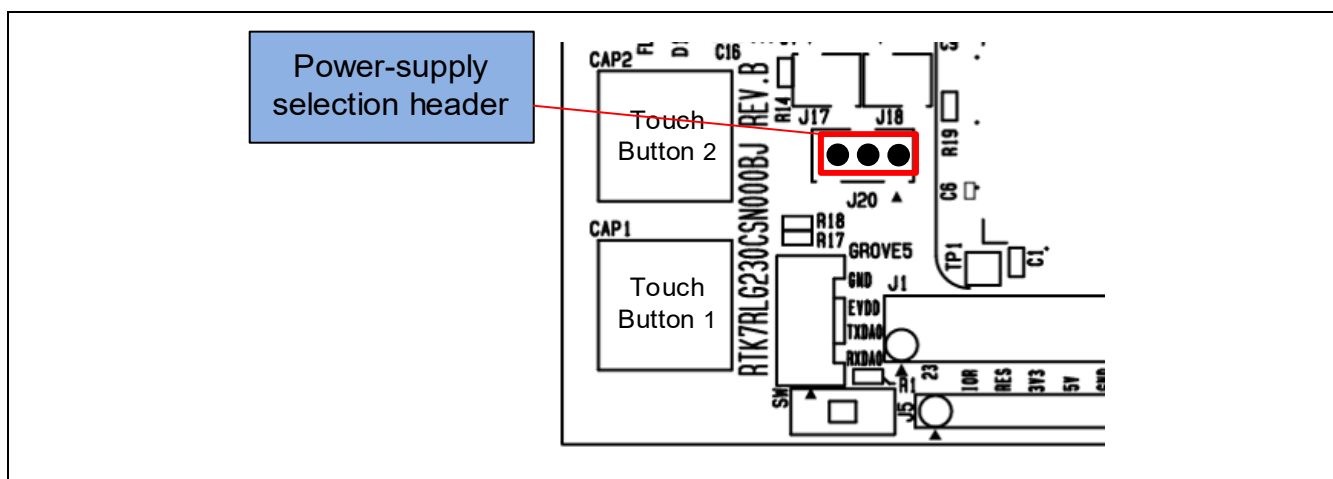

Figure 5-7 Setting of the Header to Select Supply from the Emulator or External Power (Top Side)
- J20 being open-circuit selects supply from the emulator or external power. (Figure 5-7).